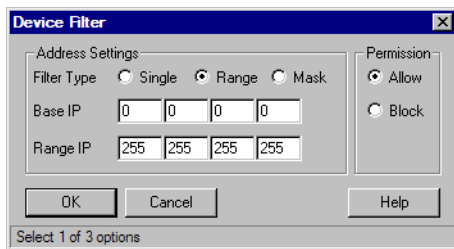

Figure 3-30. Device Filter Configuration
3. Add a new entry by selecting **Add**, or modify an existing entry by highlighting it and selecting **Modify**. The Device Filter Configuration editor opens (Figure 3-30).